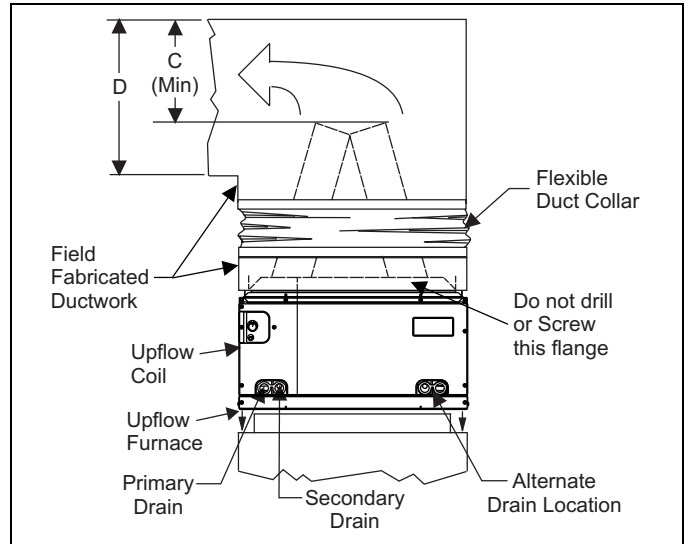

FIGURE 6: PC Series Upflow Coil Installation
1. Position the coil casing over the furnace opening as shown in Figure 6.
Do not drill any holes or drive any screws into the front duct flange on the coil in order to prevent damaging coil tubing. See Figure 6.
**NOTE:** Dimension "C" should be at least 2/3 of dimension "D". See Figure 6.